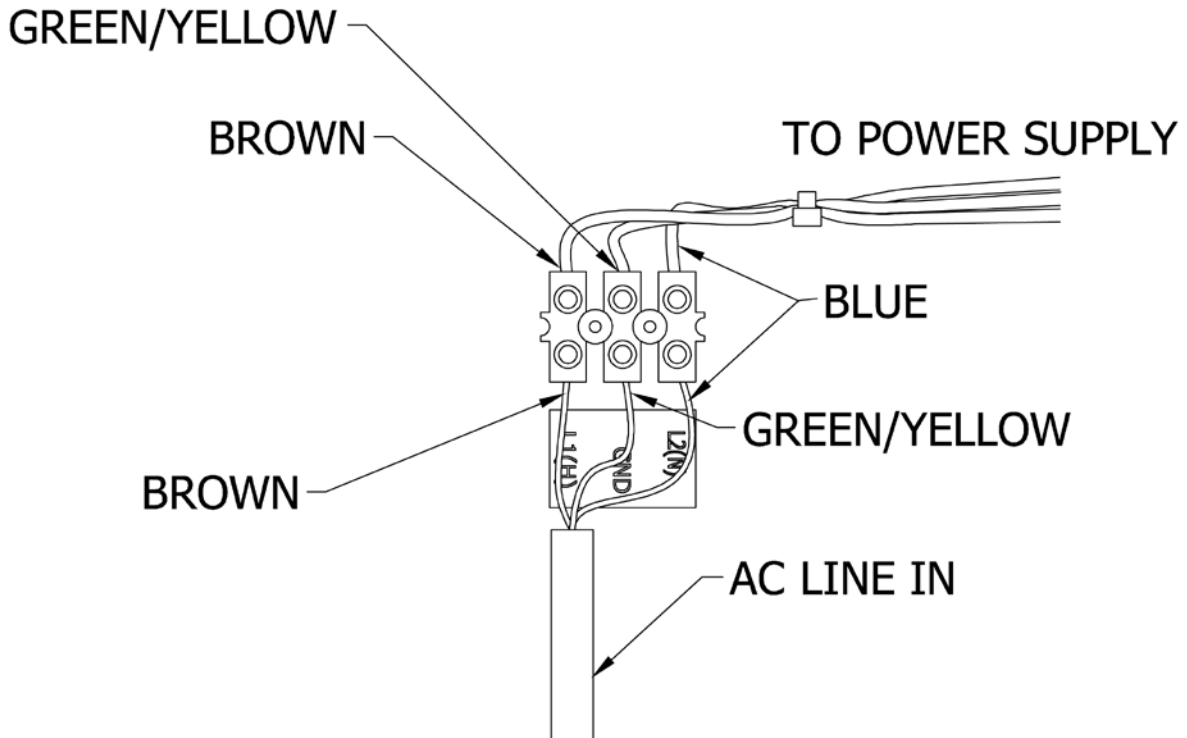

Figure No. 13
3. To connect each wire to the AC power terminal block, first loosen each of the three screw terminals then insert each wire into the proper terminal and securely tighten the screws. Refer to the wiring color code table below, Figure No. 13 and the labels in the display enclosure for the correct terminal connections.